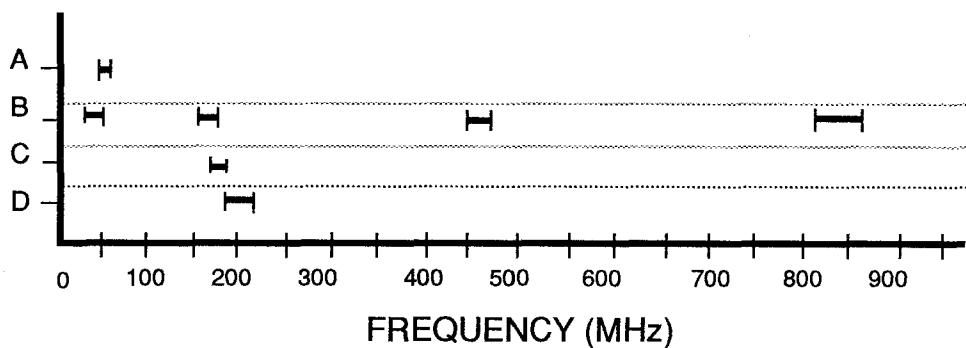

Figure 10-32. Wireless microphone frequency bands used in the United States
In the United States, the FCC regulates the operation of wireless mics at specified frequency bands. Frequency bands typically used are shown in Figure 10-32. The applicable Federal Communications Commission regulations are as follows:
- Low power communication devices may operate in the 49.81 MHz to 49.90 MHz band (Figure 10-32 (a)). Power is limited to 10,000  $\mu$ V/M radiation at a 3 meter distance (approximately 1 to 5 mW) and with a 5 kHz audio frequency limit. This segment of the RF spectrum is susceptible to man-made noise generated by auto ignition, fluorescent lights, dimmers, etc. The restriction imposed by the FCC on low-power equipment aggravates the problem of signal-to-noise ratio in this band. Because these frequencies are evenly spaced (15 kHz apart), only three wireless mics can operate simul-
mics are: 30.76 MHz to 43 MHz, VHF low-band; 150 MHz to 173.4 MHz, VHF high-band; 457MHz to 470 MHz, UHF low-band; and 806 MHz to 866 MHz, UHF high-band (Figure 10-32 (b)). At 150 MHz and higher, man-made noise decreases significantly. With the higher power and larger transmission bandwidth allowed by the FCC, along with many more available frequencies and the shorter antenna requirement, operation in the VHF high-band and higher is desirable. The major disadvantage is interference from other business radio services. An operating station license is required and the
transmitter must be type accepted under FCC regulations. Contact your local FCC office for a Form 25 if you want to obtain a license. Anyone can operate a wireless mic system at these frequencies. Specific frequencies designated in this part of the regulation for wireless mics are known as "B frequencies." The bands are from 169.445 MHz to 170.245 MHz, from 171.045 MHz to 171.845 MHz, from 169.505 MHz to 170.305 MHz and from 171.105 MHz to 171.905 MHz (Figure 10-32 (c)). "B" frequency transmissions must not exceed a bandwidth of 54 kHz and output power of 50 mW.
- For broadcasting, video production, and filmmaking applications, wireless mics may operate in the 174 MHz to 216 MHz range (TV channels 7 thru 13), on a non-interference basis. (Figure 10-32(d)). This means that for a given location, wireless mics may operate on unused TV channels. Transmitter power is limited to 50 mW. An operating station license is required for broadcasters and filmmakers and the transmitter used must be type accepted under FCC regulations. This VHF high-band offers the best operating area for wireless mics. It is free of citizens band (CB) and business radio interference, and any commercial broadcast stations that might cause interference operate on a schedule, and thus can be avoided easily.